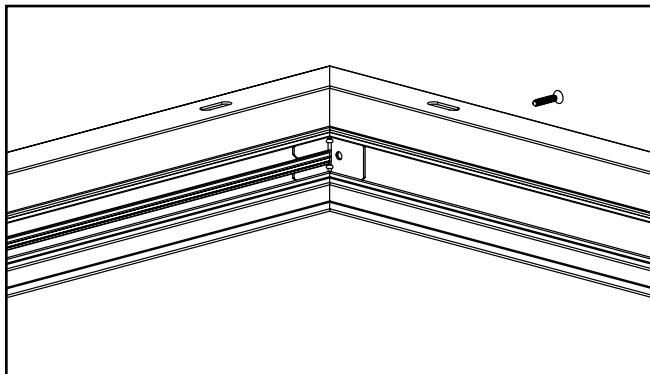

Figure 12.
3. Use included screw to fasten frame pieces together to form a corner. (Figures 12 & 13.)